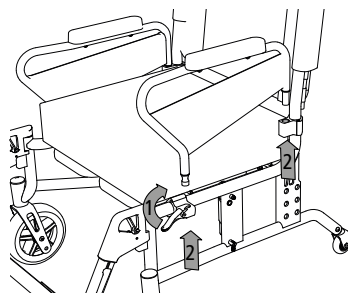

Fig. 24
1. To do this, release the locking lever of the front clamp (1, Fig. 24) by pushing it up.
2. The side panel is now unlocked and can be pulled out upwards (2, Fig. 24).